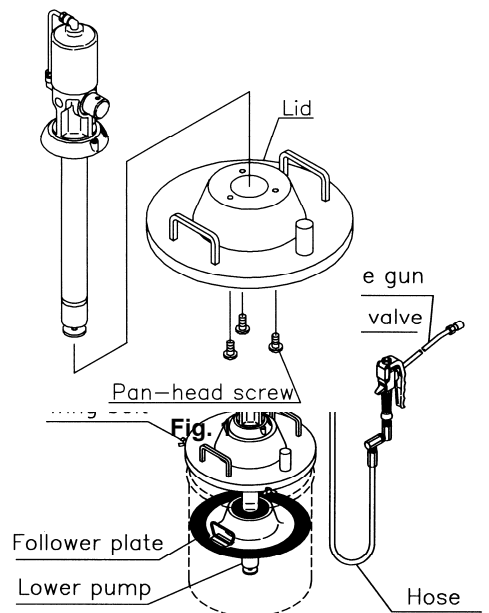

Fig. 2
- 3) Connect the high-pressure hose for grease (separately available) to the check valve at the pump discharge port and connect a high-pressure grease gun to the other end of the hose. (Fig. 2)